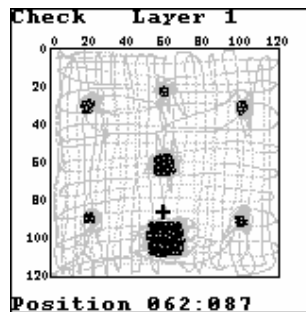

Fig. 80
6. In the Threshold Check mode DAMI-C displays the defect imaging process (Fig. 80). To activate the marker position correction when working in this mode press Up key. The screen is switching to the Point check mode and the needed marker position correction may be carried out as is stated in pp. 3-5. To return to the defect imaging process press Break key.